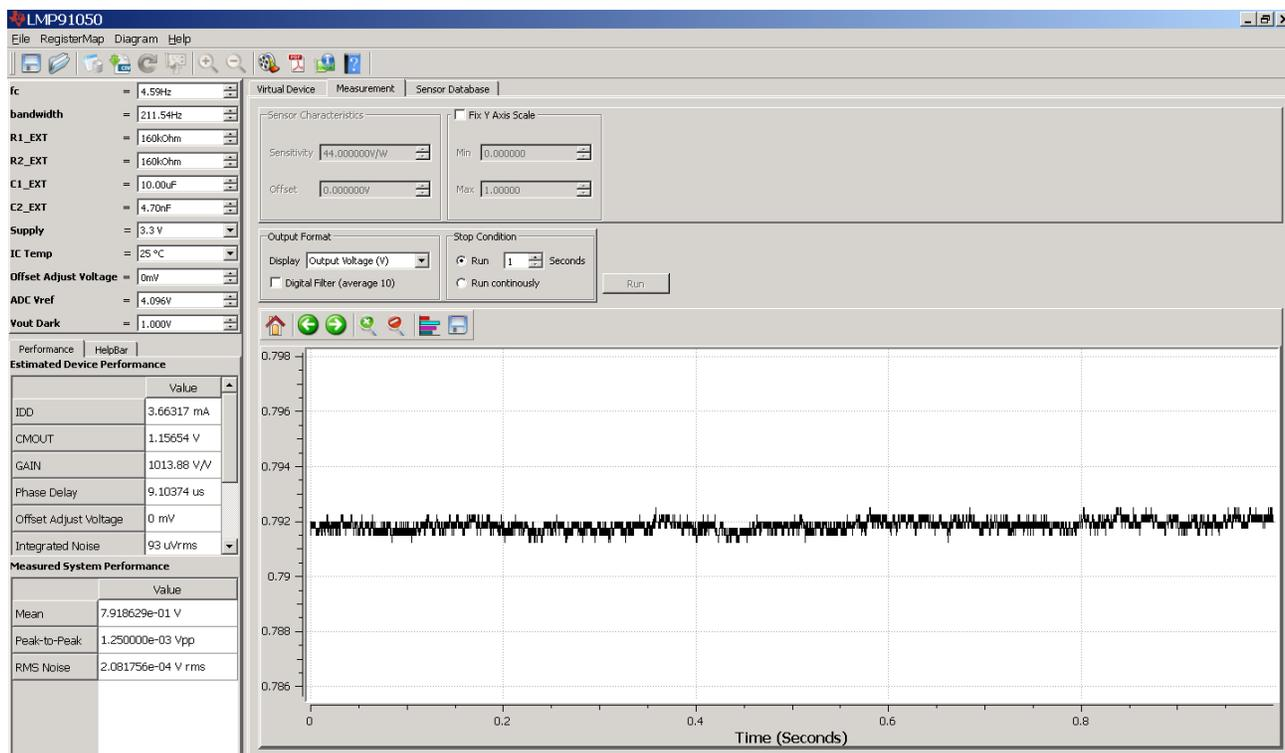

Figure 8 - Results for DC Reading
2. Under the “**Output Format**” field, select Display as “**Output Voltage (V)**”
4. Click on the “**Run**” button to view the output voltage results. A reading should be plotted as seen in Figure 8 . Output voltage will vary depending on input voltage across IN_DUT and CMOUT_DUT. If J2 is shorted, IN_DUT = CMOUT_DUT, output voltage should be about 1V. **Note: Board is provided with jumper J2 open. Use provided jumper to short IN to CMOUT for easy evaluation.**